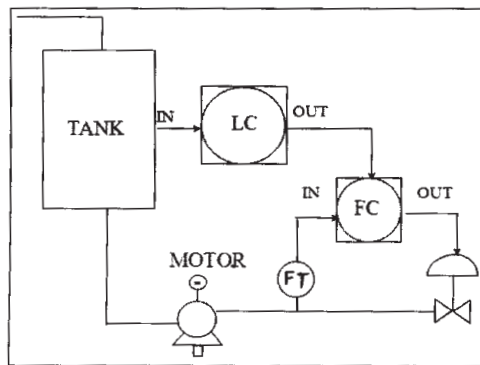

Figure 1: Cascade Control Loop
- Q7)** a) Figure 1 shows a cascade control loop, where LC is level controller and FC is Flow controller. Assume that both controllers are of PID controller. IN to LC is given by level transmitter and IN to FC is given by flow transmitter. Set point to LC is provided through operator interface (Faceplate). Write a program using FBD for a DCS system [Assume any make.]. Explain the configuration of each block. [12]
- Q8)** a) Figure 1 shows a cascade control loop, where LC is level controller and FC is Flow controller. Assume that both controllers are of PID controller. IN to LC is given by level transmitter and IN to FC is given by flow transmitter. Set point to LC is provided through operator interface (Faceplate). Write a program using FBD for a DCS system [Assume any make.]. Explain the configuration of each block. [12]
- Q1)** Find the model of system shown in Fig.1 assuming 'x' is output and 'f' is input. **[18]**